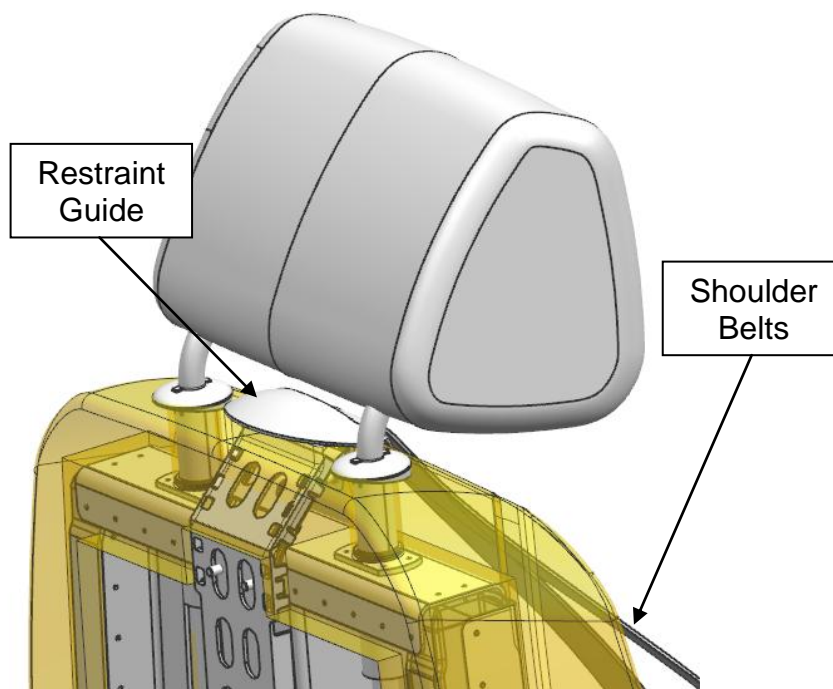

**Figure 3.5 Armrest Cover Installation**
- (1) *If MKIT2041-25-20-03-C is used in this modification then install the armrest cover in this kit using the two springs provided. Hook the springs onto the holes in the backrest beam then hook the other ends onto the armrest cover. Adjust the armrest cover around for the best fit (See Figure 3.5). Re-install the backrest cover, bottom cover, back shroud, side shroud and recline handle in reverse steps above. Ignore step M thru U below.*
- (2) *If MKIT2041-25-20-03-U is used in this modification then continue steps below.*